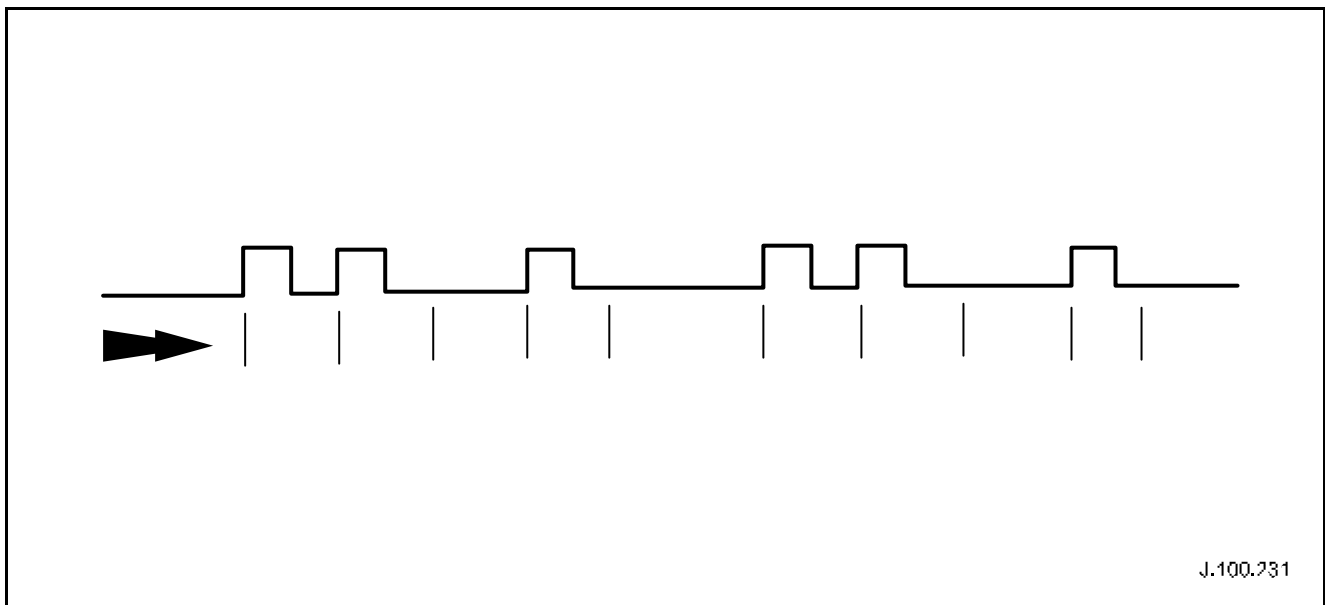

Fig. 2
When a PATS fault is apparent, the instrument cluster will store a DTC and indicate this to the customer by illuminating the LED in the following manner. The LED will be illuminated for 60 seconds (flashing for customer fault codes, continuous for non-customer fault codes); the LED will then be extinguished for 2.5 seconds. The first digit of the fault code will then be flashed. The total LED 'on/off' time per single flash will be one second, this being repeated for the relevant number of times to count the first digit. The LED is then off for a further 1.5 seconds before the second digit of the fault code is flashed, again the total 'on/off' time per single flash will be one second with the number of repeats being the second digit (see Fig. 2 below). The fault code flash routine will be repeated up to 10 times. The indication will stop immediately if the ignition is turned to 'OFF' at any time during the fault indication sequence. **(Note: Only the highest priority fault code will be flashed).**
- Example (see Fig. 2); fault code 21 (all times in seconds, from left hand side 2.5s, 1s, 1s, 1.5s, 1s, 2.5s, 1s, 1s, 1.5s and 1s)